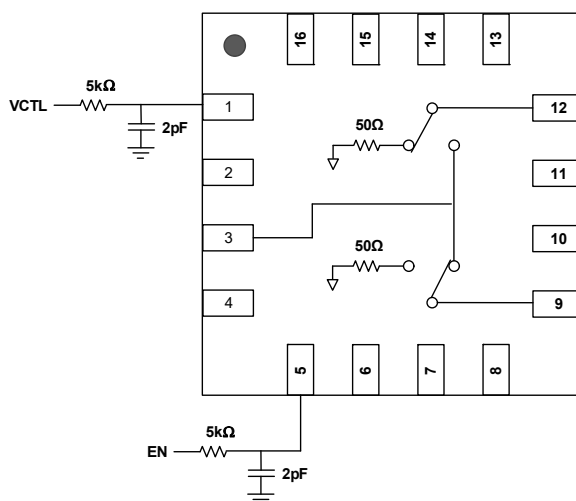

Figure 16. Typical Application Circuit
If control signal integrity is a concern and clean signals cannot be ensured because of issues such as overshoot, undershoot, and ringing, the following circuit at the input of each control pin is recommended. This applies to control Pin 1 (VCTL) and Pin 5 (EN) as shown in Figure 16.